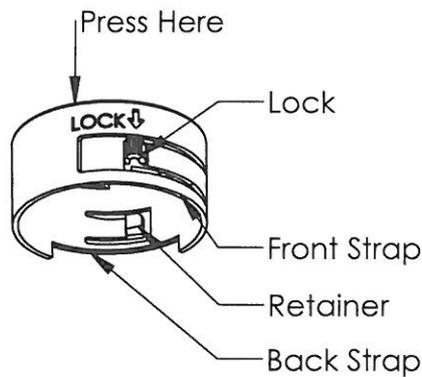

Figure 2
2. Tilt lock ring to engage back strap onto the inflator body up to retainer. Fig. 2